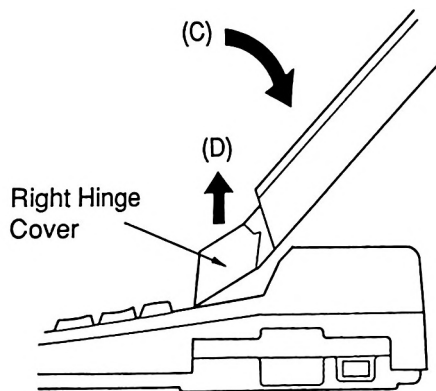

Figure 2
- (2) Set the angle of the display panel in the direction of arrow (C) as shown in Figure 2. Then, lift up the right hinge cover in the direction of arrow (D).
- (3) Repeat the same procedures mentioned above to remove the left hinge cover.
- (4) Close display panel.